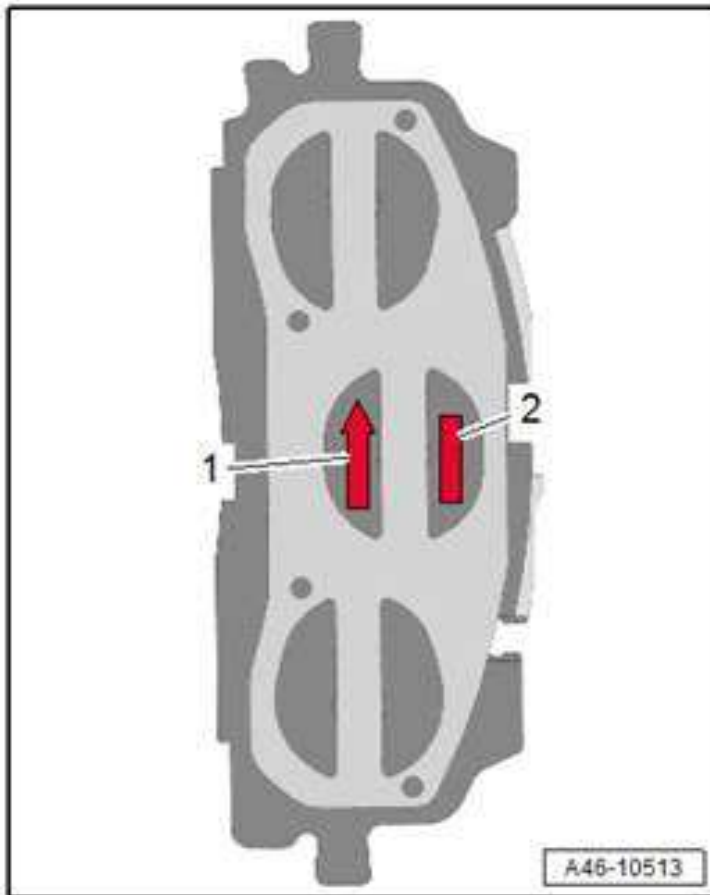

Figure 5. Correct installation positioning for the brake pad.
5. It is mandatory to pay attention to the labeling on the brake pad (Figure 5). When installed the arrow (1) position on the backing plate must point upward (the pads should be installed with the arrows following the forward rotation of the wheel). Labeling (2) indicate correct assembly position (left outer/inner, right outer/inner).